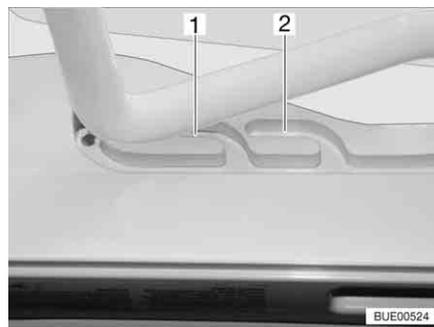
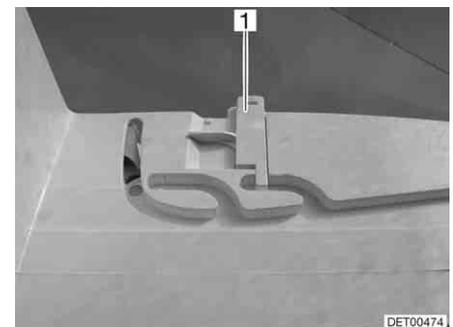

Fig. 63 Heki skylight in ventilation position
Fig. 64 Ventilation position locking mechanism
The Heki skylight can be put in two ventilation positions: Bad weather position (Fig. 63,1) and central position (Fig. 63,2). Depending on the model, the skylight can be locked in the central position with the latch (Fig. 64,1).
- Push the bar slightly upwards and into the selected guide (Fig. 63,1 or 2) and lock if necessary.